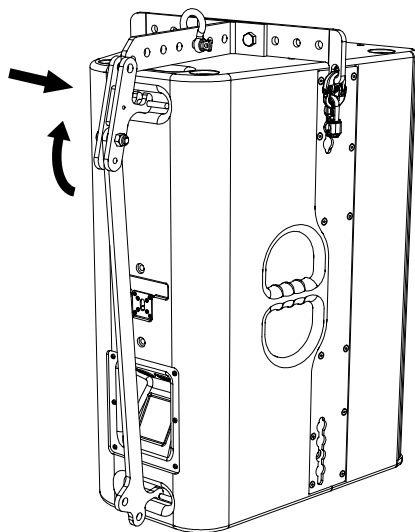

Figure 4.7 - Hooking the BBT24 bracket in the upper handle
Fold the upper part of the BBT24 bracket forward and hook it with the hook in the upper handle of the T24(N) speaker as shown in figure 4.7.